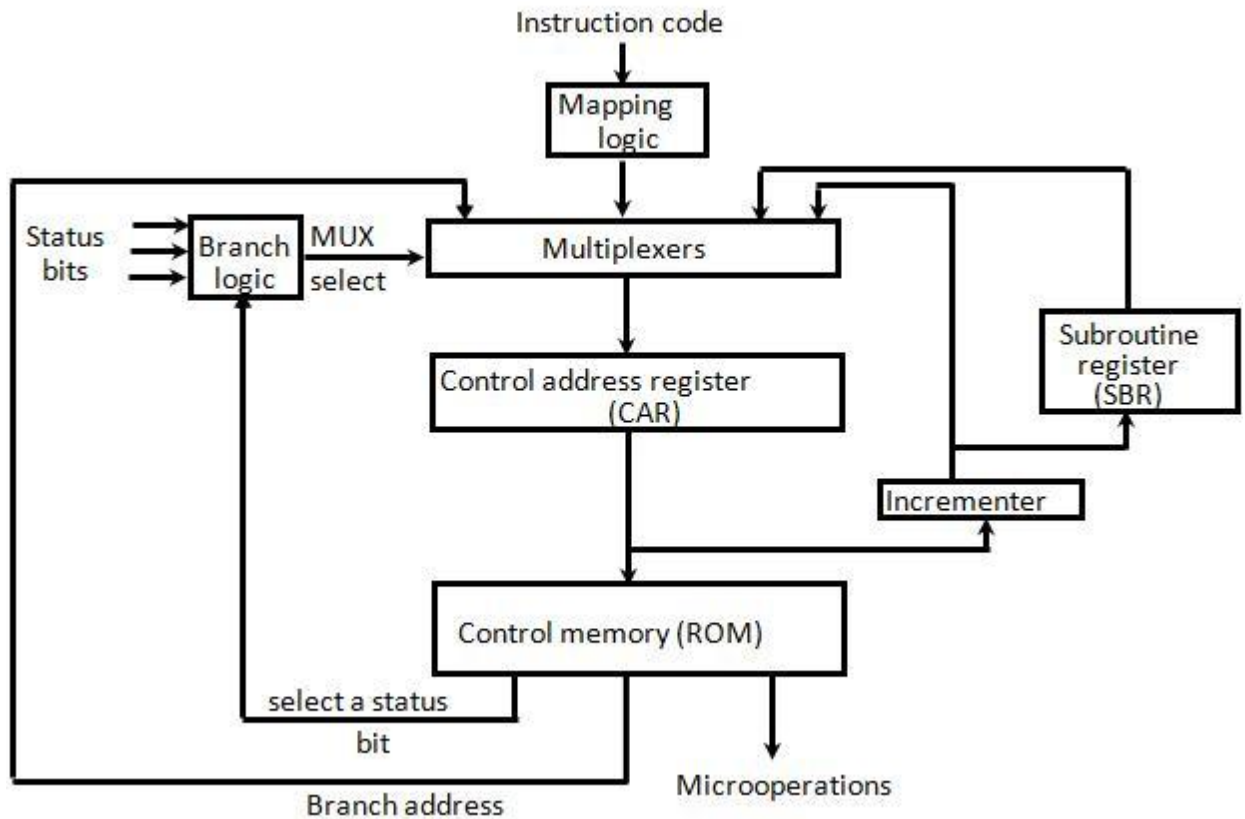

Figure 4.2: Selection of address for control memory
- ❑ Above figure 4.2 shows a block diagram of a control memory and the associated hardware needed for selecting the next microinstruction address.
- The branch logic of figure 4.2 provides decision-making capabilities in the control unit.